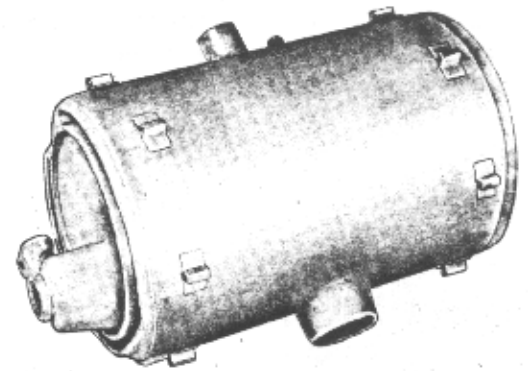

Figure 5—Heat Exchanger
1. The heat exchanger (Figure 5) is made of stainless steel and consists of a cylinder-shaped central chamber and an outer chamber which encases the central chamber. The